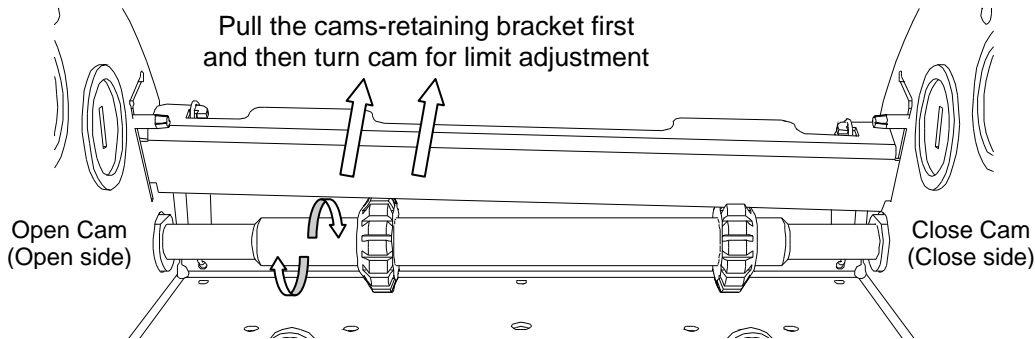

Figure 12 Adjusting the limit cams
2. Pull the cams-retaining bracket from the Open side and rotate manually the Open cam (*Figure 12*) until the cam activates the limit switches sufficiently so as to hear the switches click (2 clicks for hardwired circuit. Only one click with ECB and check if the OPEN limit light is ON).
5. Pull the cams-retaining bracket from the Close side and rotate manually the Close cam (*Figure 12*) until the cam activates the Close limit switch sufficiently so as to hear the switch click (2 clicks for hardwired circuit. Only one click with ECB and check if the CLOSE limit light is ON).